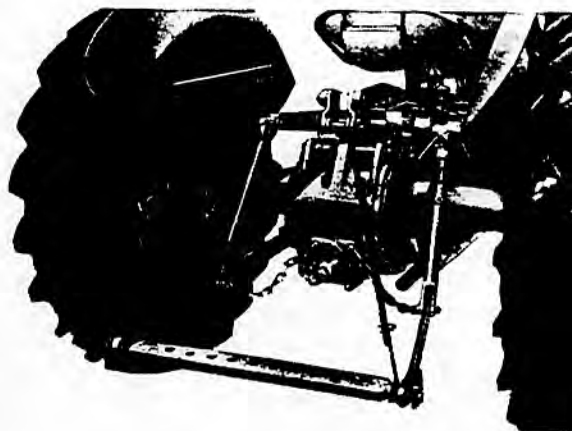

FIG. 27
DRAWBAR (Fig. 27)
Figure 27 shows the adjustable drawbar mounted to the tractor in the correct manner, with the stay assemblies attached to the long hitch pin on the rear axle casing.
12. DRAWBAR (Fig. 27)